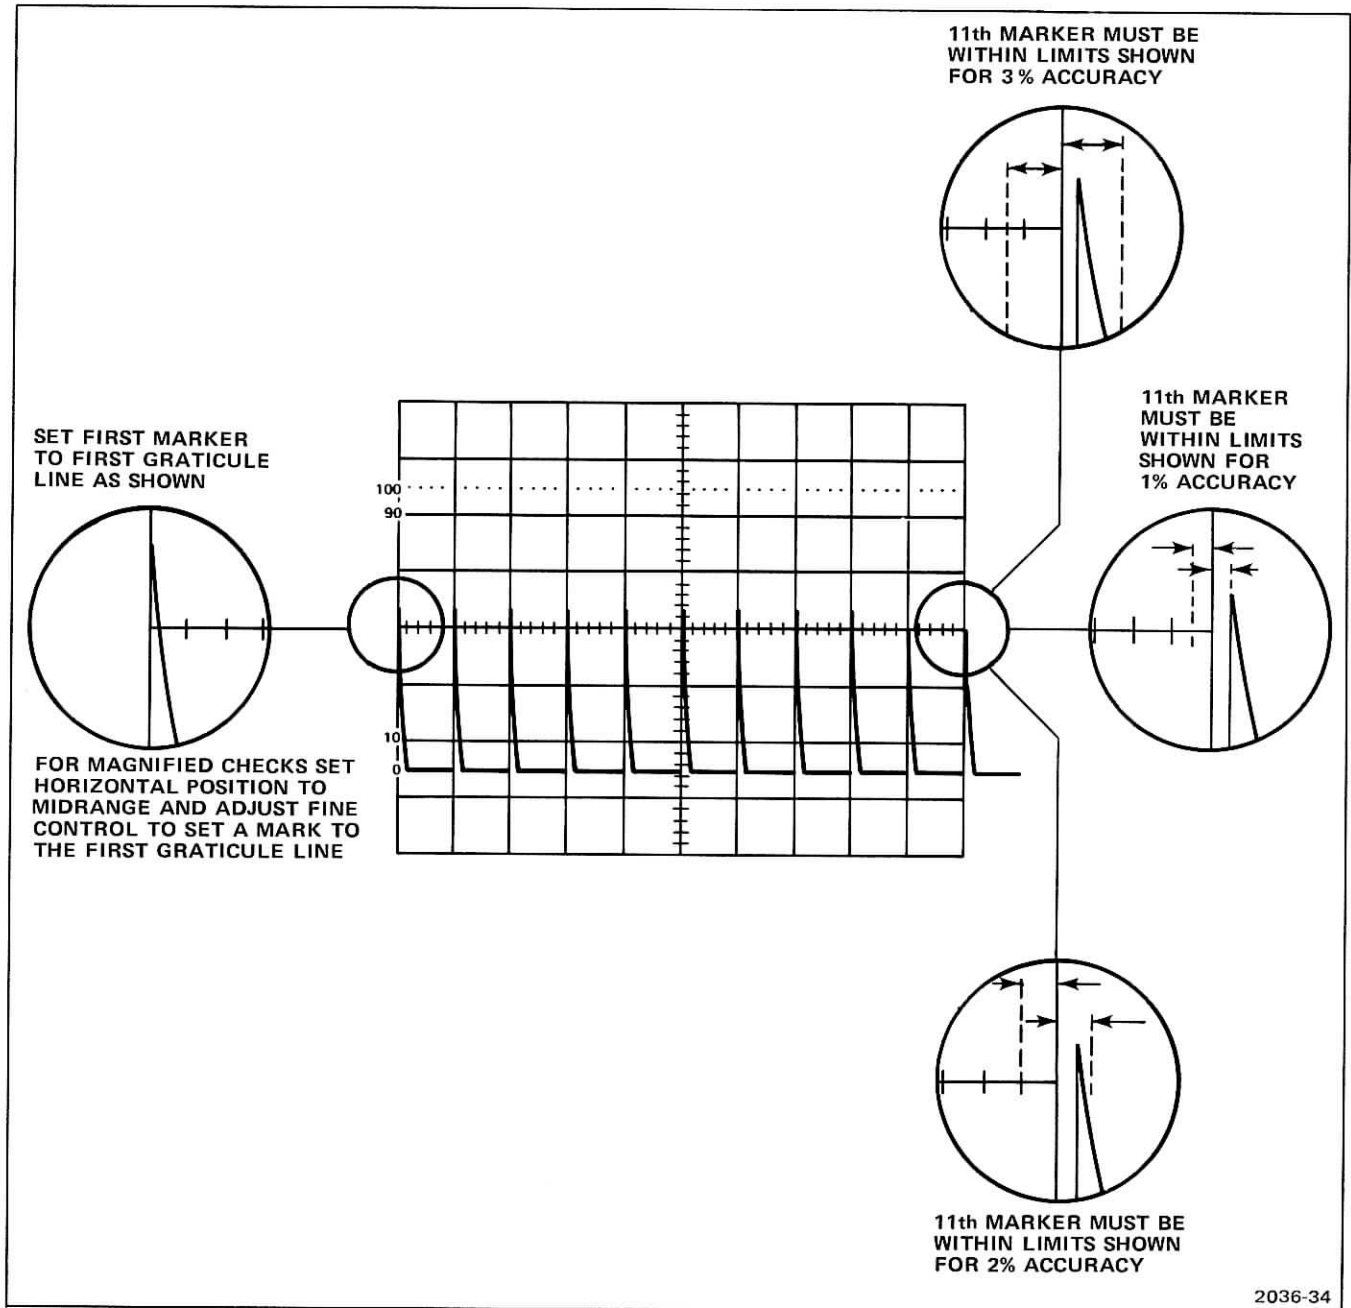

Fig. 6-9. Timing accuracies.
- g. **CHECK**—The eleventh time marker is within 0.2 divisions (2%) of the eleventh vertical graticule line (see Figure 6-9).
- m. **CHECK**—Eleventh time marker is within 0.2 division of the eleventh vertical graticule line (see Figure 6-9).
- j. Set first displayed timer marker to first vertical graticule line (see Figure 6-9).
- k. **CHECK**—Eleventh time marker is within 0.2 division (2%) of the eleventh vertical graticule line (see Figure 6-9).
Unless otherwise stated, set POSITION and FINE (HORIZ) controls so the first time marker coincides with the first graticule line and check the error at the last graticule line (see Figure 6-9).
- b. **CHECK**—Timing accuracy is within 1% at TIME/DIV settings from .01 μ s to 5 ms (see Figure 6-9).
- c. **CHECK**—Timing accuracy is within 2% at TIME/DIV settings from .05 μ s to .5 s (see Figure 6-9).